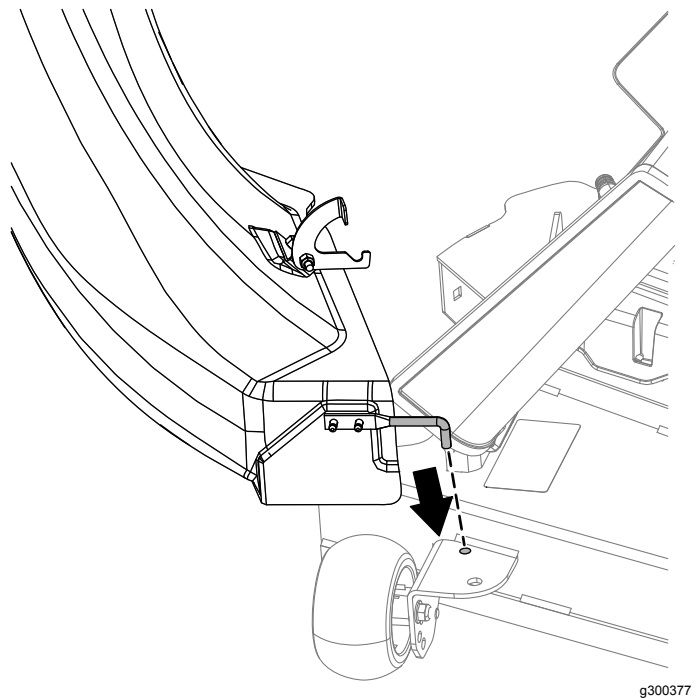

Figure 21
4. Tilt the chute and install the pin into the hole on the mower deck as shown in Figure 21.